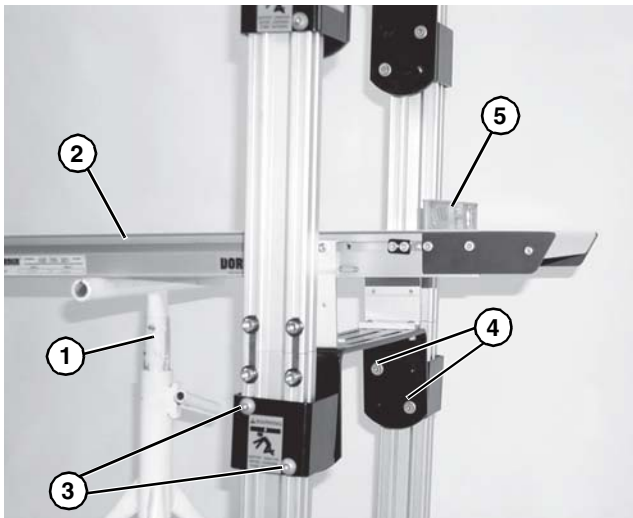

Figure 12
1. Install a support (Figure 12, item 1) below conveyor (Figure 12, item 2) that will be adjusted.
<p>Loosening conveyor height adjustment screws (Figure 12, item 3) or angle adjustment screws (Figure 12, item 4) may cause conveyor to drop down, causing severe injury. SUPPORT CONVEYOR PRIOR TO LOOSENING ANY OF THESE SCREWS.</p>
2. Loosen two flange socket head screws (Figure 12, item 4) on each side of conveyor (Figure 12, item 2).
3. Loosen two button head screws (Figure 12, item 3) on each side of conveyor (Figure 12, item 2).
4. Adjust conveyor to desired height. Using a level (Figure 12, item 5), ensure conveyor is level from side to side.
<p>Failure to secure screws (Figure 12, item 4 and 3) may cause conveyor sections to drop down, causing severe injury. TIGHTEN SCREWS (Figure 12, item 4 and 3) AFTER ADJUSTMENT.</p>
5. Tighten two flange socket head screws (Figure 12, item 4) on each side of conveyor (Figure 12, item 2) to 24 ft-lb (33 N-m).
6. Tighten two button head screws (Figure 12, item 3) on each side of conveyor (Figure 12, item 2) to 17 ft-lb (22.5 N-m).
2. Adjust conveyor to desired angle. Using a level (Figure 12, item 5), ensure conveyor is level from side to side.